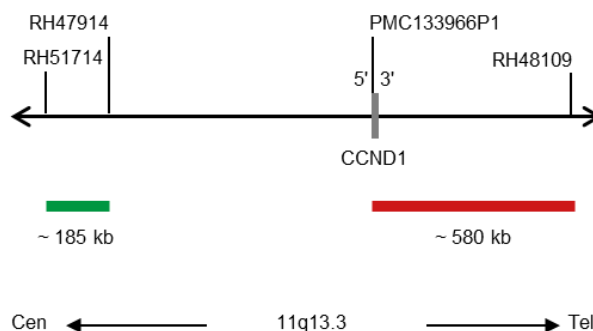

Fig. 1: SPEC CCND1 Probe map (not to scale)
- Digoxigenin-labeled polynucleotides (~0.50 ng/ μ l), which target sequences mapping in 11q13.3* (chr11:68,522,105-68,705,283) proximal to the CCND1 breakpoint region (see Fig. 1).
- Dinitrophenyl-labeled polynucleotides (~0.75 ng/ μ l), which target sequences mapping in 11q13.3* (chr11:69,453,301-70,031,240) distal to the CCND1 breakpoint region (see Fig. 1).